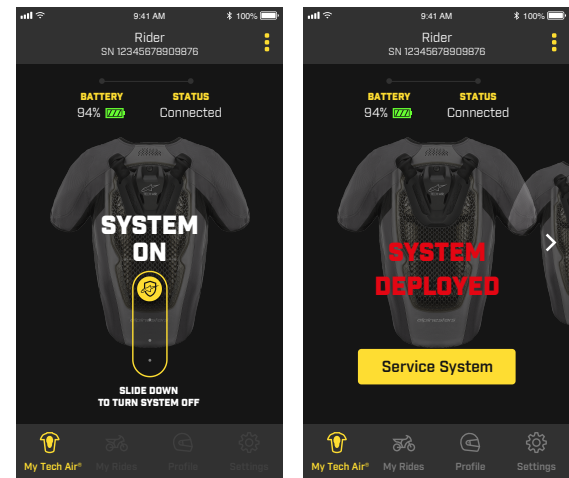

Figure 12
The App provides information about the actual operating mode of the System, verifying if the System is functioning correctly or not. The indication "System On" displayed on the screen indicates that the System Check has been successfully passed and that the System is active. While riding "System On" mode is active and, accordingly, for safety reasons, the user cannot access most of the App functions. In case the System needs to be disabled by the user, such as during a heavy off-road riding session, the System can be turned off using the slide icon on the App (as shown in Figure 12). To reactivate open and close the Front Flap (2). From the App the user can also verify the actual deployment of the System during an accident as the deployment of the System is shown on the App (see Figure 12 wherein the System status is shown).